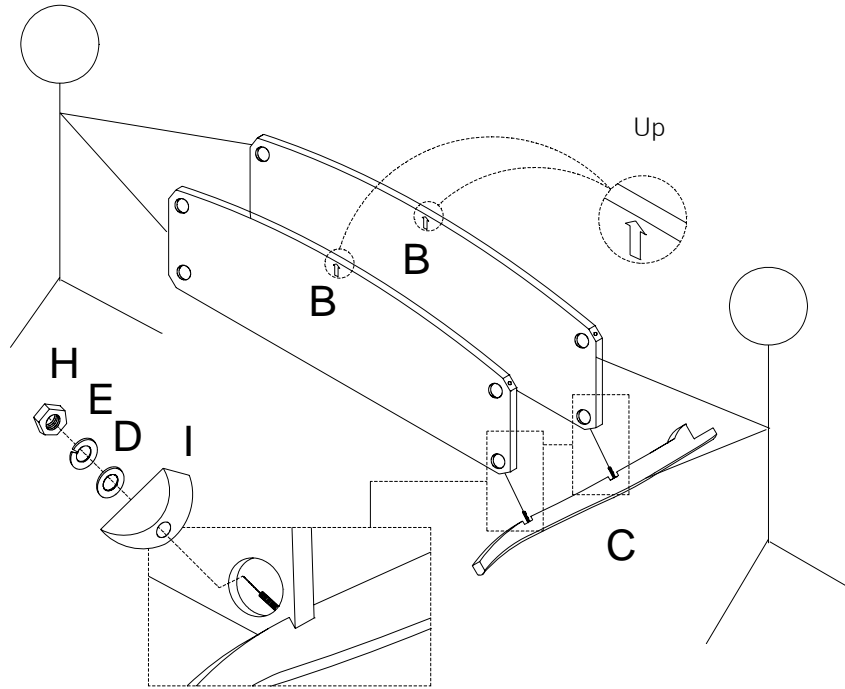

Fig. 1
1. Insert the hanger bolts pre-connected to the leg (C) into the pre-drilled corner holes of the shelves (B). Insert fitting (I), flat washer (D), lock washer (E), and nut (H) into bolts. Use hand to secure. DO NOT FULLY TIGHTEN AT THIS TIME. (Fig. 1)